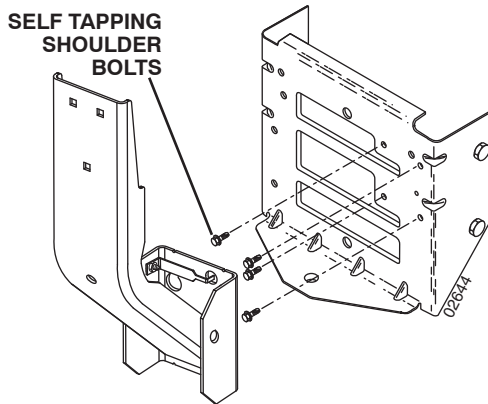

Fig. 1B
**NOTE:** If your tractor already has four (4) shoulder bolts installed on the rear drawbar, simply hang the mounting bracket, on the bolts. Discard included shoulder bolts and disregard Fig 1B.
### SELF TAPPING SHOULDER BOLTS (See Fig. 1B)